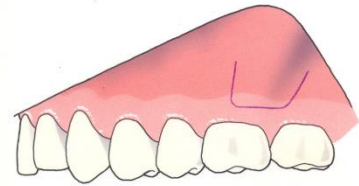

Fig. 1
A U-shaped incision is made in the maxilla. A vertical incision is made  $\pm 1$  cm mesial from and parallel to the infra-zygomatic crest, a horizontal incision 2 mm below the muco-gingival border, and vertical incision upwards (3)  $\pm 1$  cm to the infra-zygomatic crest (Fig. 1)
In the mandible a horizontal incision is made into the attached gingiva with downwards extensions in the mucosa mesial and distal (Fig. 1)